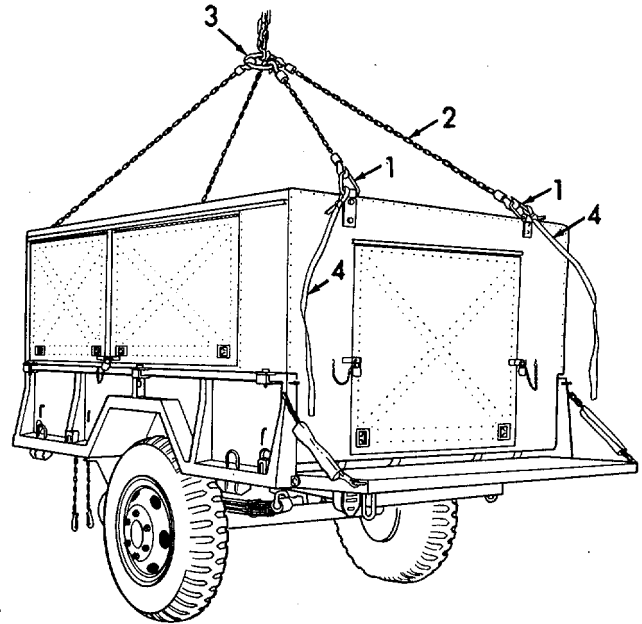

Figure 6-3. Connecting the Hoist.
- (1) Inspect for loose, missing, or damaged hardware.
- (2) Inspect the door, panels, and other parts for damage.
- (3) Inspect the frame for damage.
e. Repair. Repair of the cabinet assembly is limited to those items in the maintenance paragraphs below.*f. Installation (Refer to Figures 6-3 and 6-4).*
- (1) Refer to Figure 6-3. Pull the four lifting loops (1) from the spring clips and raise the loops up.
- (2) Attach a chain (2) to each loop (1) and the hoist (3). Be sure the chains are of equal length.
- (3) Attach a cargo strap (4) to each lifting loop.